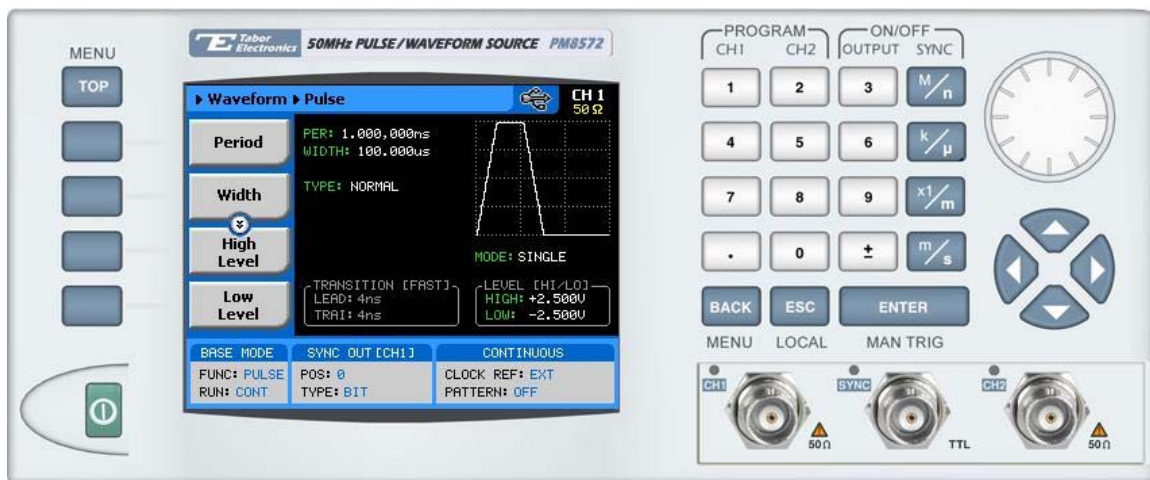

Figure 3-15, the Pulse Generator Menus
4. Press the Enter button to select the pulse generator function. Figure 3-15 shows the Pulse Generator panel and menus.